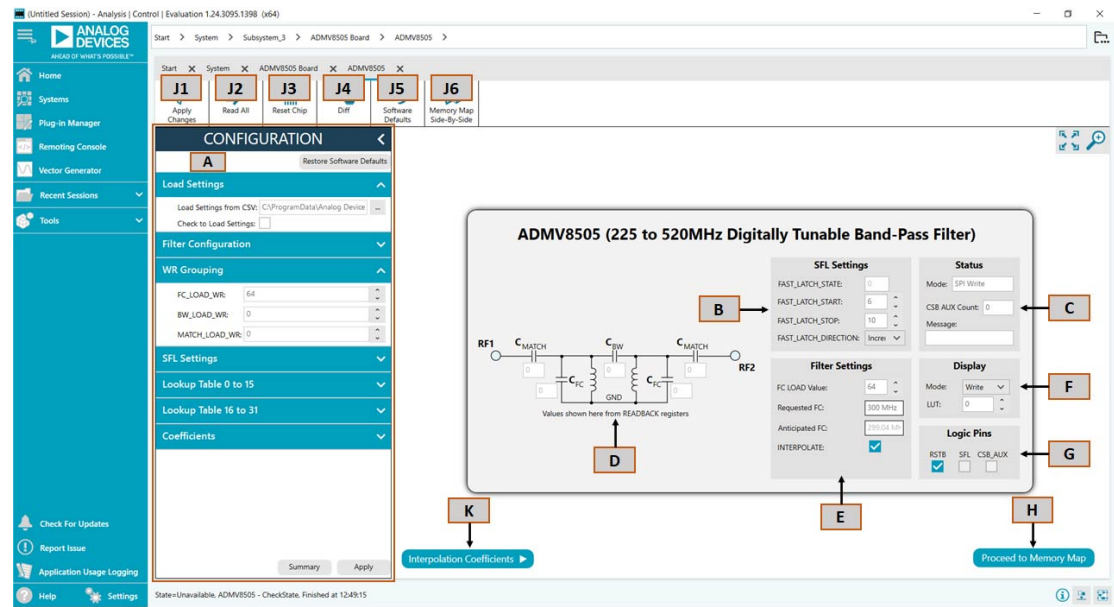

Figure 7. ADMV8505 Chip Plug-In with Labels
The full screen ADMV8505 chip plug-in with labels is shown in Figure 7. The labels correspond to items listed in Table 1, which
Table 1. ADMV8505 Chip Plug-In Label Functions (See Figure 7)
Table 1. ADMV8505 Chip Plug-In Label Functions (See Figure 7) (Continued)
E	The Filter Settings section shows several controls for configuring the filter. Depending upon if INTERPOLATE is enabled, various controls can be visible. When INTERPOLATE is enabled (as shown Figure 7), the following controls are visible: FC_LOAD Value: this numeric up and down box (0 to 255) is used to set the desired center frequency value. Note that this is a unitless quantity, where a 0 corresponds to the lowest center frequency, and 255 corresponds to the highest center frequency. Requested FC: enter in a requested center frequency in this text box. The value entered is used to compute the closest FC_LOAD Value for that frequency of operation. Anticipated FC: this text box is an estimation of the operating center frequency based upon the FC_LOAD Value. INTERPOLATE: this check box enables the interpolation functionality on the chip. When INTERPOLATE is disabled (not shown in Figure 7), the following controls are visible: FC_LOAD Value: this numeric up and down box (0 to 255) is used to set the desired center frequency capacitor code. BW_LOAD Value: this numeric up and down box (0 to 255) is used to set the desired bandwidth capacitor code. MATCH_LOAD Value: this numeric up and down box (0 to 255) is used to set the desired input and output match capacitor code. INTERPOLATE: this check box enables the interpolation functionality on the chip. READBACK Values to Filter Settings: this button is available when interpolation is disabled. Click this button to populate the read back values from the hardware into the FC_LOAD, BW_LOAD, and MATCH_LOAD values.
If a reset of the ADMV8505 chip is required on the ADMV8505-EVALZ, click **Reset Chip** (see Figure 7, Label J3, and Table 1 for additional information). This automated sequence performs the following actions:
- ▶ The $\overline{\text{RST}}$ pin can also be pulled low from within the ACE software by unchecking the **RSTB** check box in the lower right corner of Figure 7 (see Label G). When using this option, be sure to click the check box again to return the $\overline{\text{RST}}$ pin high.